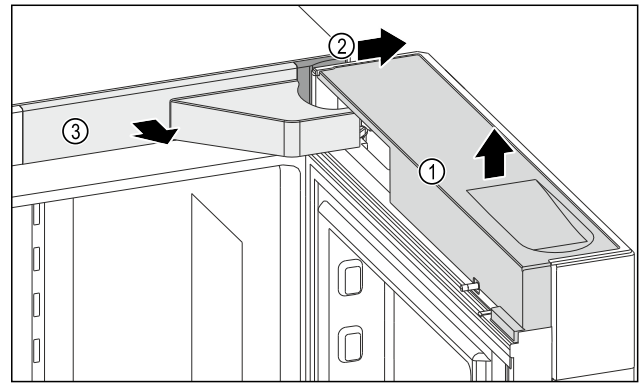

Fig. 9
- ▶ Remove the cover Fig. 9 (1).
- ▶ Remove the cover Fig. 9 (2).
- ▶ Remove the cover Fig. 9 (3).